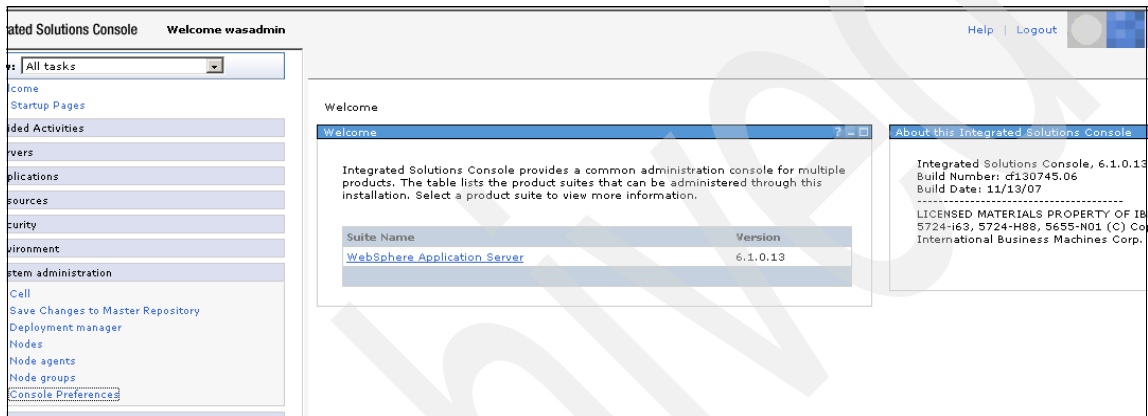

Figure A-18 MXServer
1. Ensure the Web server is started and log on to the WebSphere administrative console. Start the MXServer server by navigating to **Servers** → **Application Servers**, selecting **MXServer**, and then clicking **Start** (see Figure A-18).